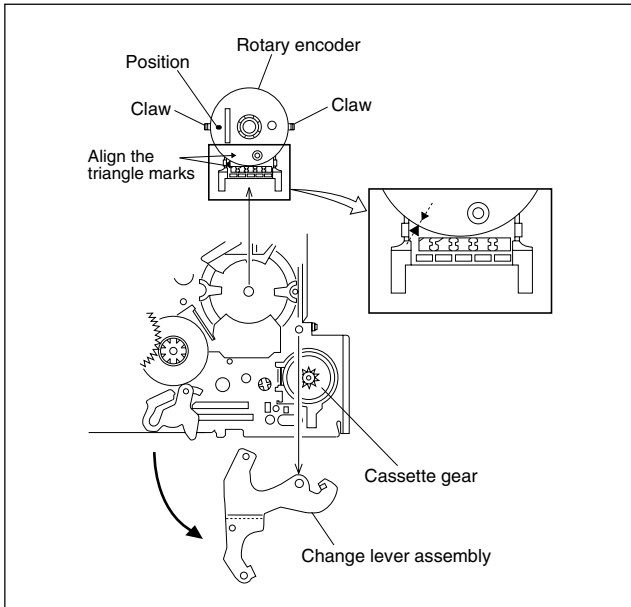

Fig.2-2-13a
- (1) Slide the change lever assembly in the direction of the arrow and remove.
- (2) While pushing the claws on both sides in the disengaging directions, take out the rotary encoder.
- (3) When attaching the rotary encoder, position it so that the alignment markings face each other as shown in Fig. 2-2-13a, then attach the rotary encoder.